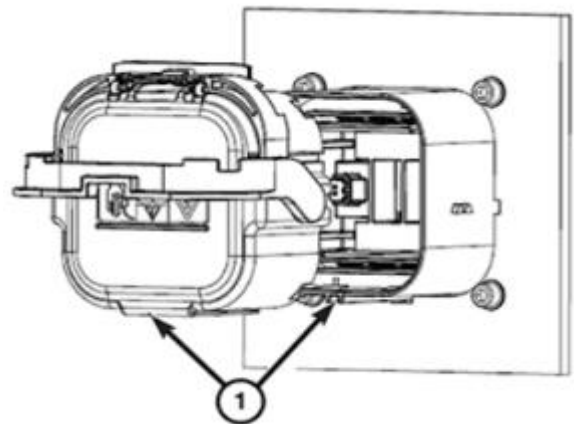
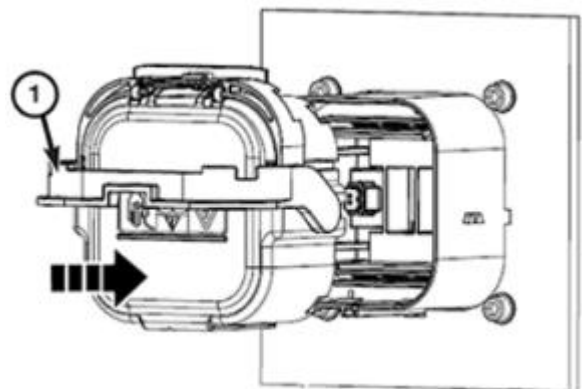

Figure 23 – MSD Installation
Figure 24 – MSD Lever
18. Align the polarization feature (1) of the high-voltage MSD with the receptacle on the high-voltage battery (Figure 23).
19. Push the high-voltage MSD evenly into the receptacle with the lever (1) in the 90° position.
NOTE: With the high-voltage MSD properly aligned with the receptacle, the lever (1) will be released and allowed to rotate to the lock position (Figure 24).